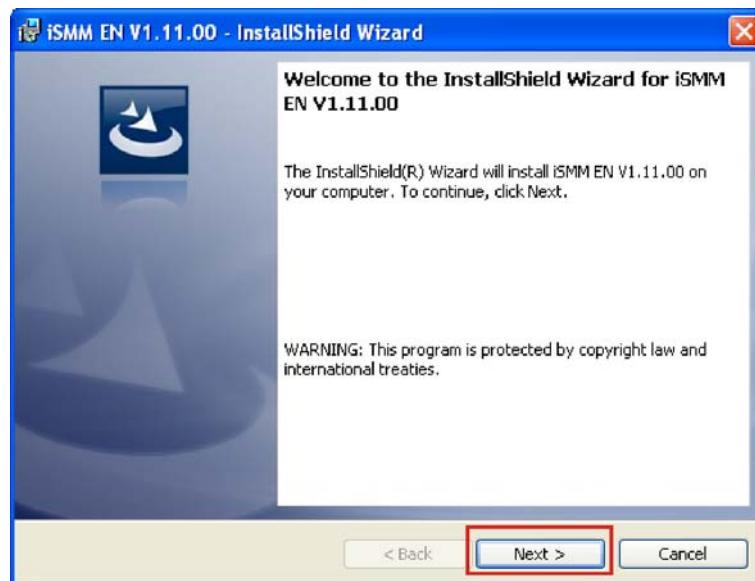

Figure 7-31: iSMM InstallShield Welcome Screen
**Step 7:** The iSMM InstallShield Welcome Screen appears. (Figure 7-31)